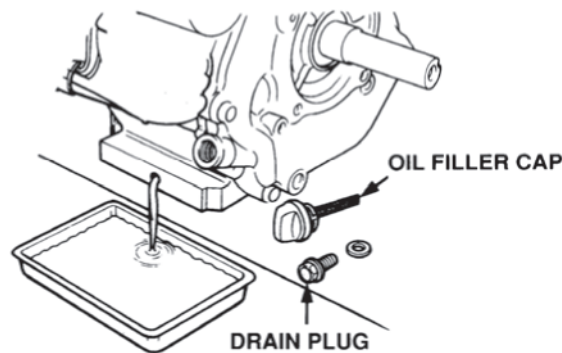

FIGURE-6
6.2.4 Remove the oil filler dipstick/cap and drain plug. Allow oil to drain from the engine (refer to Figure-6).